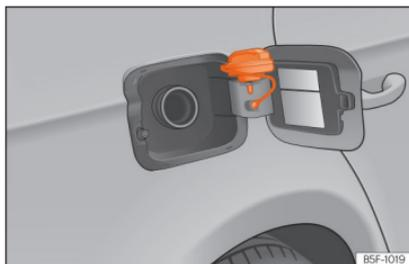

Fig. 61 Fuel tank flap with tank cap attached.
- Place it in the space on the hinge of the open flap >>> **Fig. 61**.